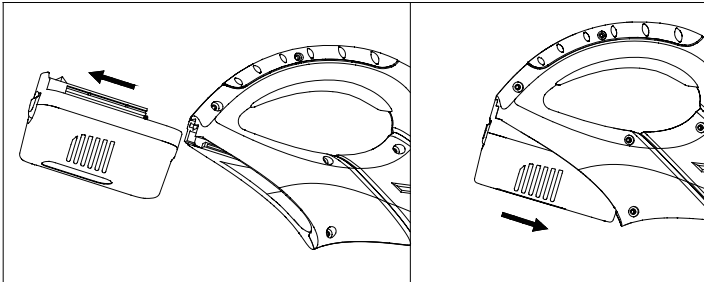

Fig 1
Fitting and removing the battery pack (Fig.1)
1. Place battery pack in your hedge trimmer. Align raised rib on battery pack with groove inside hedge trimmer. (Figure 1)
2. Remove battery pack from your hedge trimmer. (Figure 1)